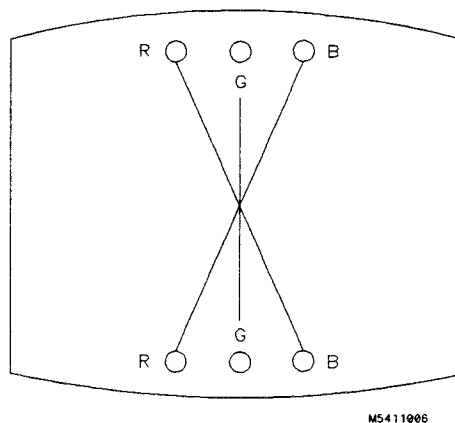

Figure 4-9. Y BOW CROSS Adjustment
3. Adjust **Y BOW CROSS** (RV804) on bottom PC board to eliminate red, green, and blue orthogonal misalignment at top and bottom of center vertical line. Refer to figure 4-9.